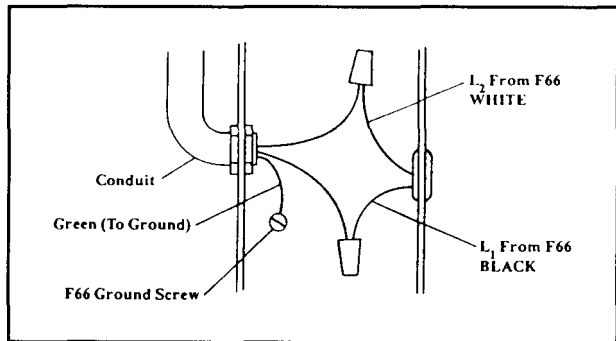
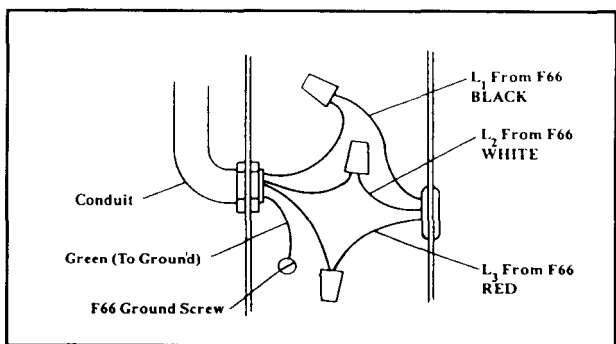

FIGURE 14 - F66 Single phase
FIGURE 15 - F66 Three phase
3. Use wire nuts to make connections in wiring compartment. See Figure 14 for single phase models. See Figure 15 for three phase models.